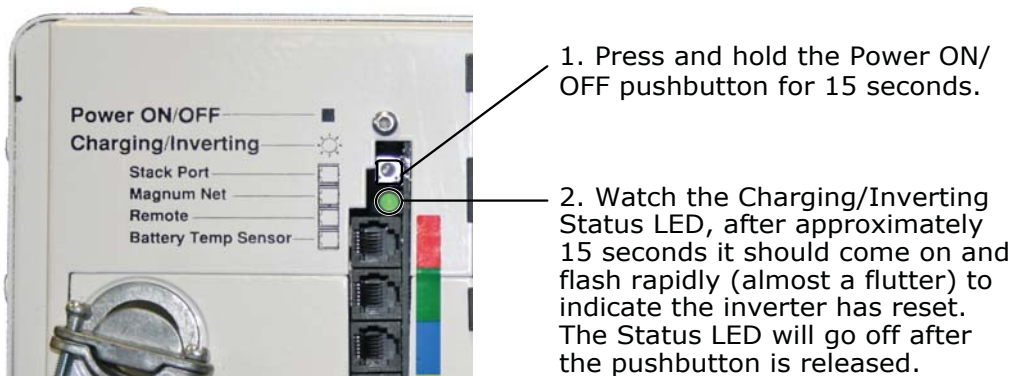

Figure 6-1, Performing an Inverter Reset
To perform an inverter reset (also known as a soft reset), press and hold the Power ON/OFF button (see Figure 6-1) for approximately fifteen (15) seconds until the Charging/Inverting Status LED comes on and flashes rapidly. Once the rapid flashing has begun, release the Power ON/OFF button. The Status LED will go off after the button is released.